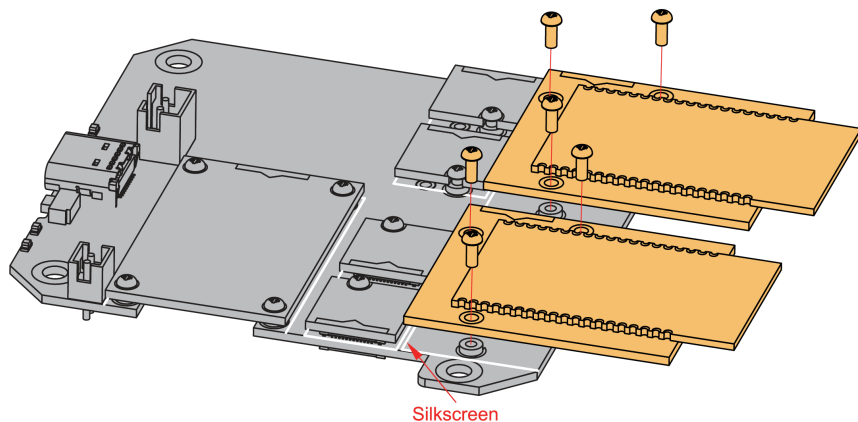

Figure 16: WisBlock IO silkscreen on the RAK19001 Base Board
A WisBlock IO module is designed to be installed on the IO slot of the RAK19001 Base Board. There are two (2) IO slots in the RAK19001 Base Board. As shown in **Figure 16**, the location is properly marked by silkscreen. Follow carefully the procedure of the section, attaching a WisConnector, to attach a WisBlock IO module. Once attached, fix the module with three pieces of M1.2 x 3 mm screws.